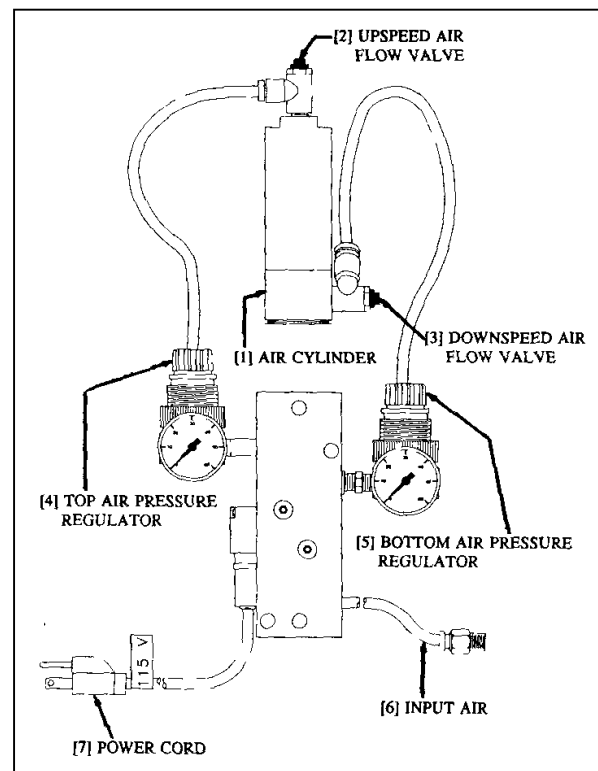

Figure 2-3. Solenoid Air Valve Assembly
- 5 Reference Figure 2-3 for the following instructions. Insert a 0.25 inch outside diameter plastic hose, with a rated burst pressure of 250 psi, into the AIR INPUT, item [6], located on the bottom of the Solenoid Air Valve Assembly. The AIR INPUT uses a "quick release" connector so special tools are not needed. Simply push the hose into the "quick release" fitting as far as it will go. Connect the other end to a FILTERED AIR SUPPLY (100 psig maximum). UNITEK suggests that in-line lubricators not be used since excess oil can blow-by worn seals in the AIR CYLINDER, item [1], ending up on the workpieces. Every one million cycles, the user should put a few drops of oil in the AIR CYLINDER. The tubing connecting the TOP AIR PRESSURE REGULATOR, item [4], with the UPSPEED AIR FLOW VALVE, item [2], and BOTTOM AIR PRESSURE REGULATOR, item [5], with the DOWNSPEED AIR FLOW VALVE, item [3], has been pre-assembled at the factory.